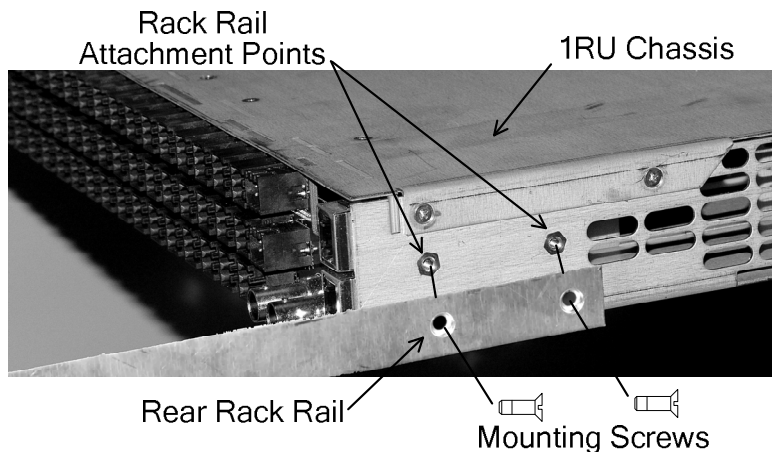

Figure 3-2 Rear Rack Rail Mounting – Typical 1 RU Chassis Installation
2. Install one Rear Rack Rail to chassis at the two Rack Rail Attachment Points using two Mounting Screws as shown in Figure 3-2.